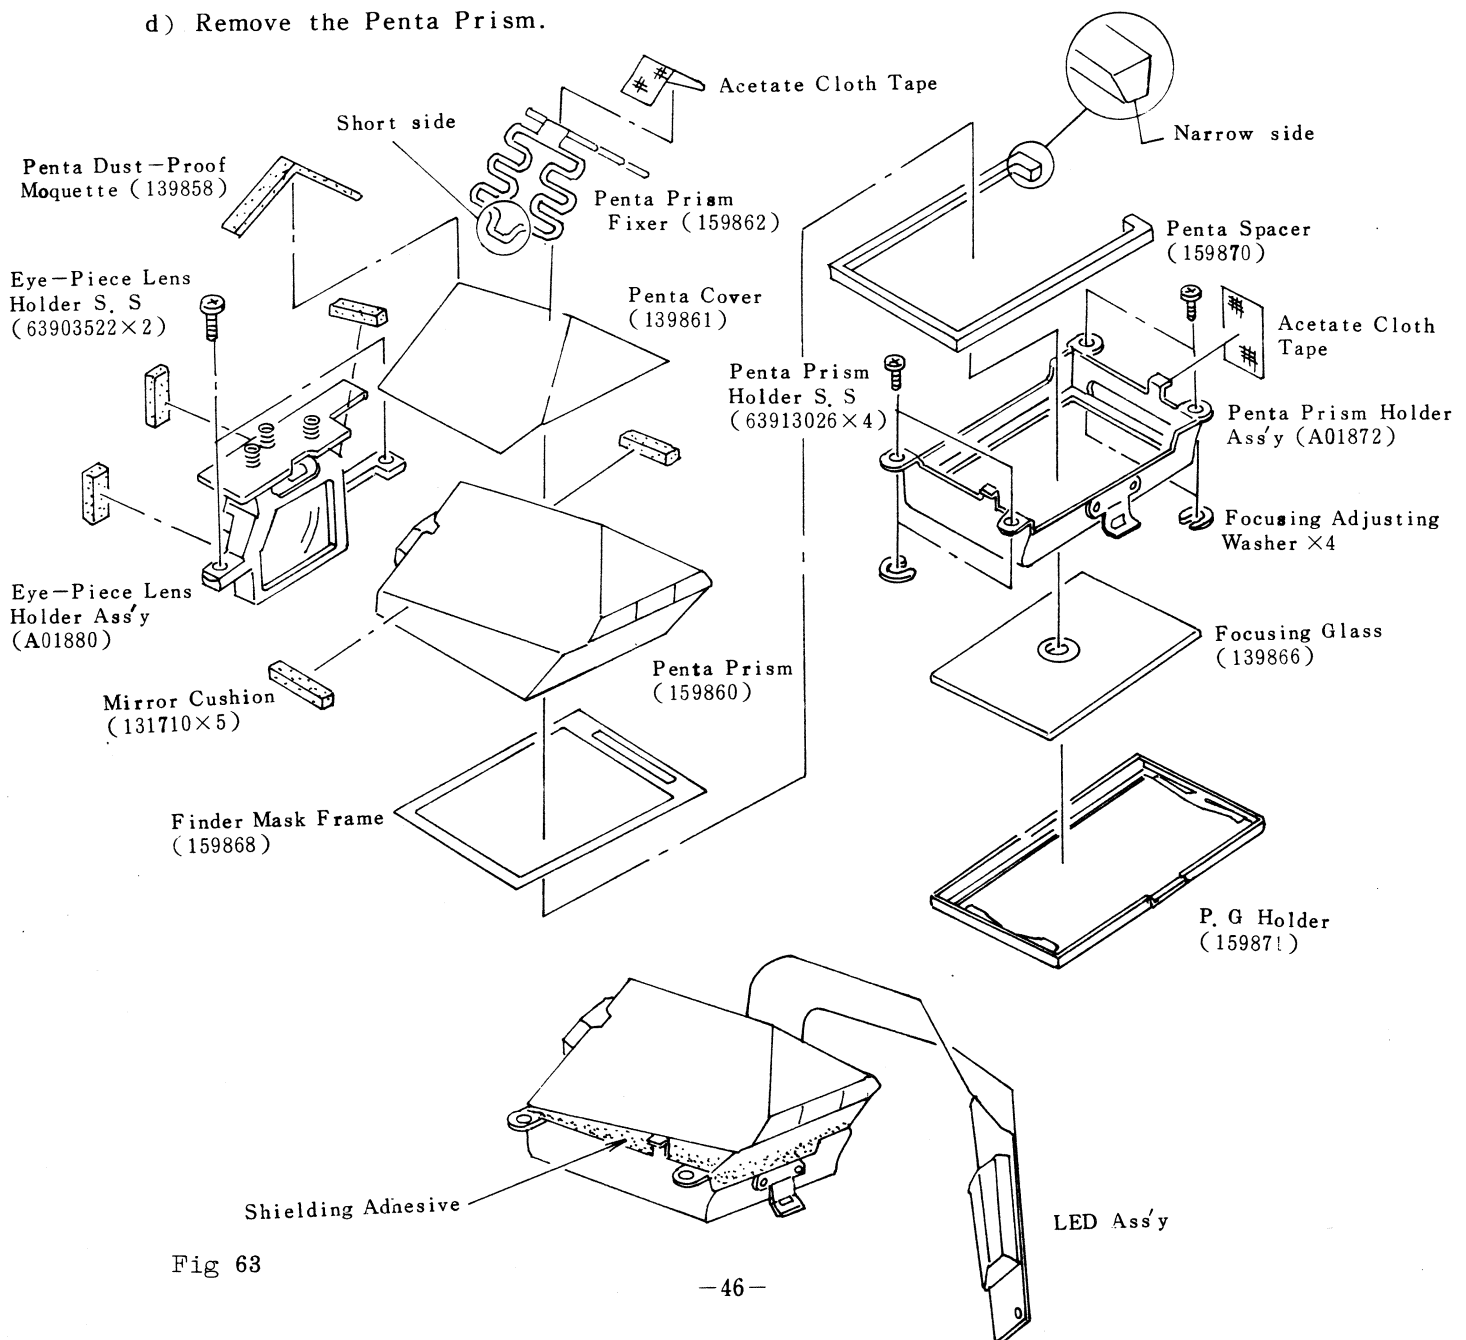
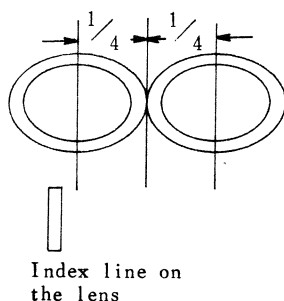

Fig 63
Fig 68
- c) Remove the shielding adhesive from around the Penta Prism as shown in (Fig 63).
When the finder focus error is out of " $\pm 1/4$ " range (Fig 68) adjust the finder focus by changing the Focusing Adjusting Washers (Fig 63). Six different thickness of Focusing Adjusting Washers are available, therefore, select the proper one.